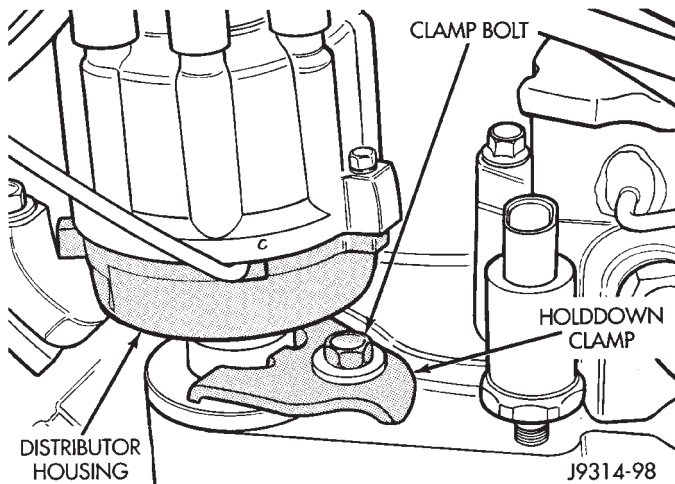

Fig. 39 Distributor Holddown Clamp—5.2L Engines
- (11) Disconnect camshaft position sensor wiring harness from main engine wiring harness.
- (12) Remove distributor rotor from distributor shaft.
- (13) Remove distributor holddown clamp bolt and clamp (Fig. 39).
- (14) Remove distributor from vehicle.
(7) Tighten clamp holddown bolt (Fig. 39) to 22.5 N·m (200 in. lbs.) torque.
(8) Connect camshaft position sensor wiring harness to main engine harness.
(9) Install distributor cap. Tighten mounting screws.
(10) Install secondary cables to distributor cap.
(11) Refer to the following, Checking Distributor Position.